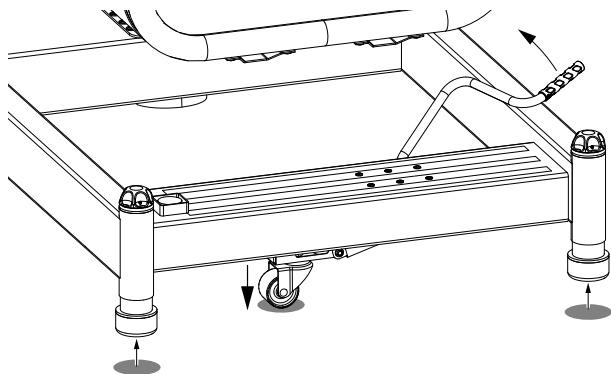

Figure 3-19. FT70 - Lift the handle to extend the swivel castor
1. Lift the handle to engage the swivel castor. (See Figure 3-19.).